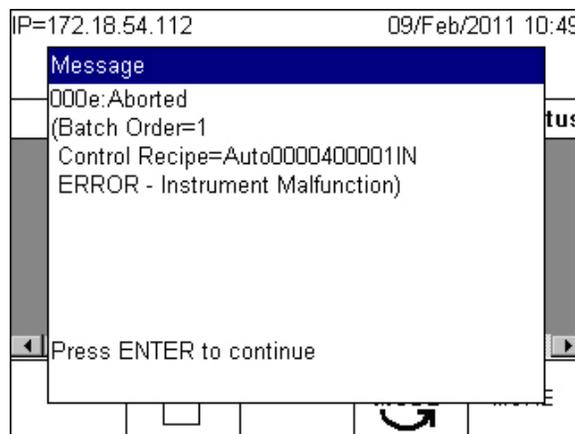

Figure 2-8: Order Check: Equipment Error Message
- Any equipment used by the selected recipe to execute a batch must be on-line and error-free (Figure 2-8).